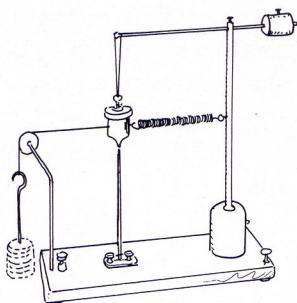

Figure 17.2
Step 7. Now attach the string to the bob and hang it over the pulley as shown in Figure 17.2. Hang just enough weight (remember: $W = mg$) to make the bob line up over the pointer. This hanging weight is the force required to stretch the spring. Record the hanging weights necessary to stretch the spring for each of the three radii. Be sure to include the weight of the weight hanger, if one is used. Record the hanging weights for each radius in Data Table 17.2.